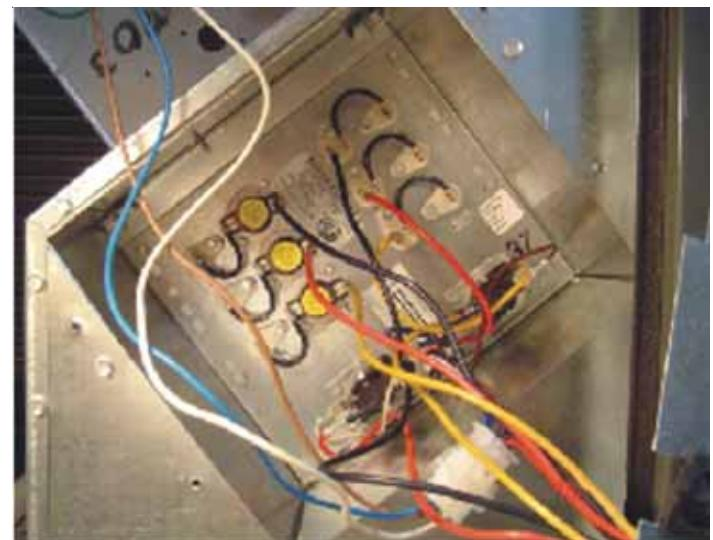

FIGURE 6
7. Install heater element(s) with the four (4) pointed screws included in the unit literature bag. Note the air flow direction label located on the heater element base shown in Figure 6. Orient the heating element base to match airflow direction on package unit blower assembly.